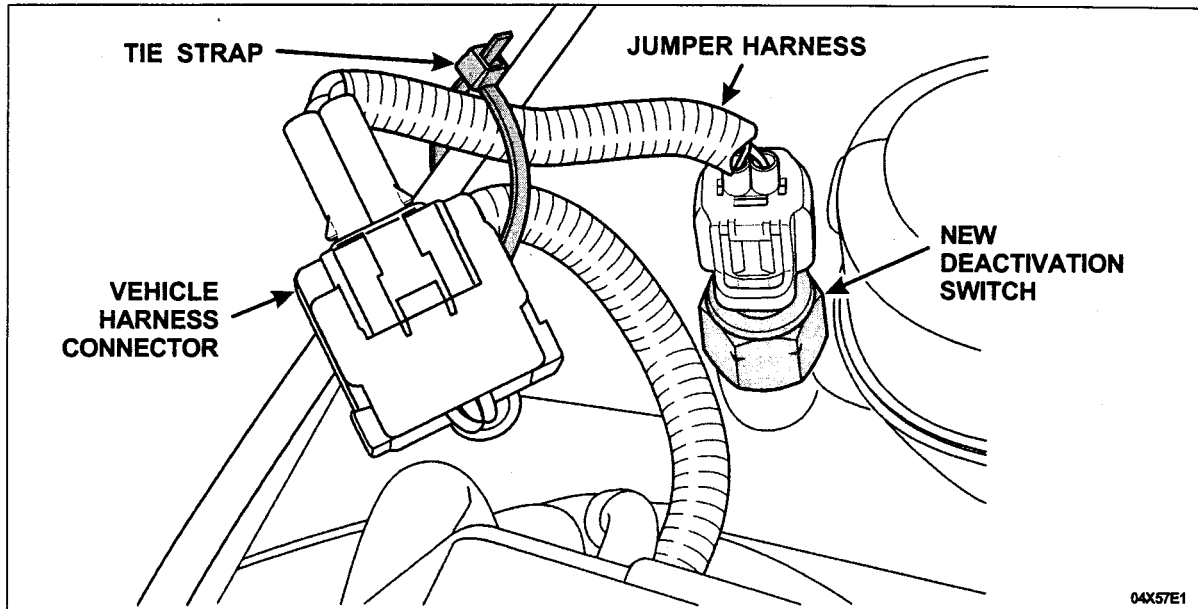

FIGURE 5
5. Using the supplied tie strap, secure the jumper to the speed control cable or some other stationary object. Keep the harness away from the power distribution box to avoid chafing the harness. See Figure 5.